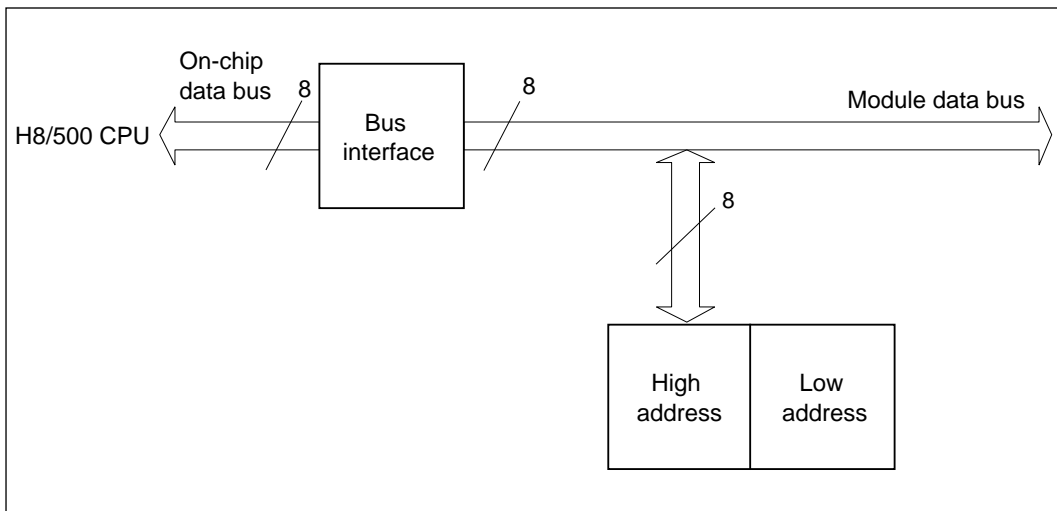
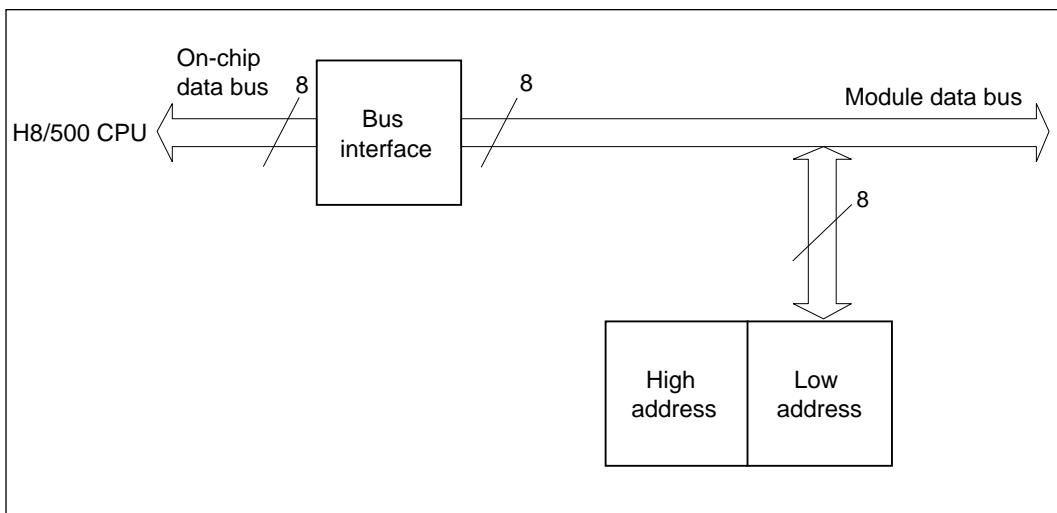

Figure 11-12 Upper Byte Read/Write Operations
Figure 11-13 Lower Byte Read/Write Operations
- **Read and Write Operations:** Table 11-6 lists the byte-accessed registers. Figure 11-12 illustrates upper byte read/write operations. Figure 11-13 illustrates lower byte read/write operations.